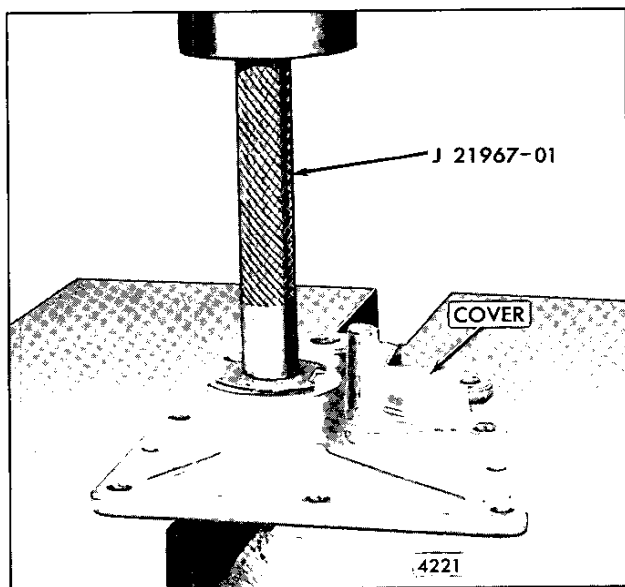

Fig. 4 - Removing Governor Cover Bearings
11. If the bearings are to be removed, place the governor cover on an arbor press and press them out with bearing remover J 21967-01 (Fig. 4).